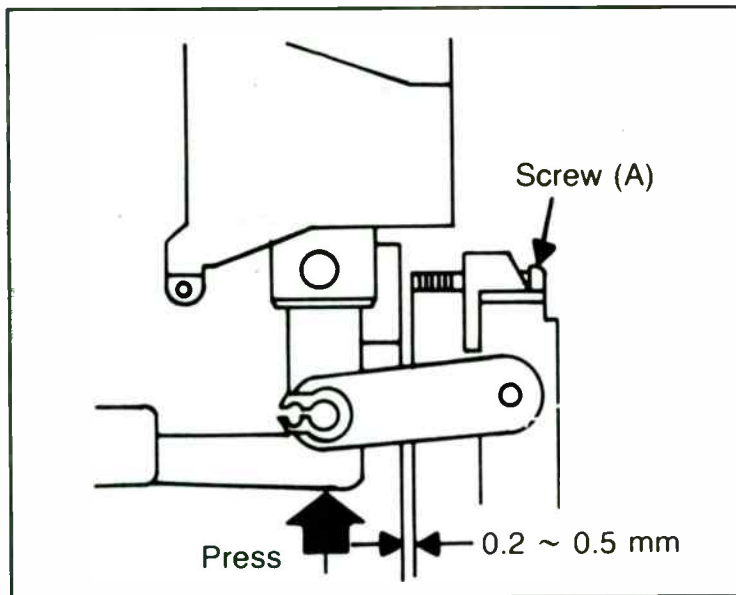

Fig. 10-19. Plunger adjustment (courtesy of Magnavox).
Press the plunger all the way in with your finger to simulate the play mode and hold it, then adjust for the clearance by turning screw (A). Adjust to 0.2 - 0.5 mm in the play mode. Refer to Fig. 10-19.